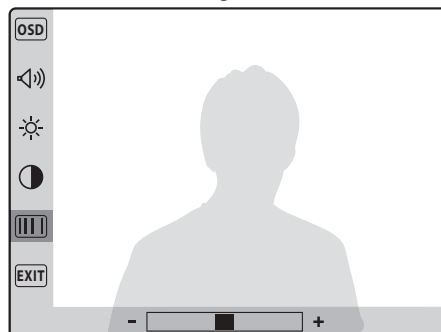

Fig.4c
- The picture hue (8 levels Fig.4c);